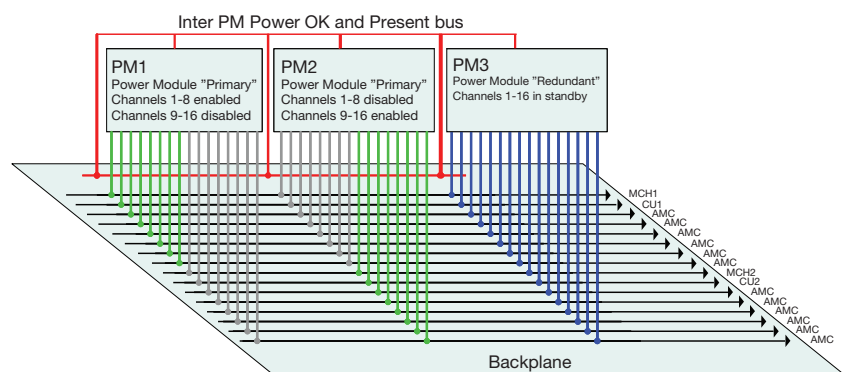
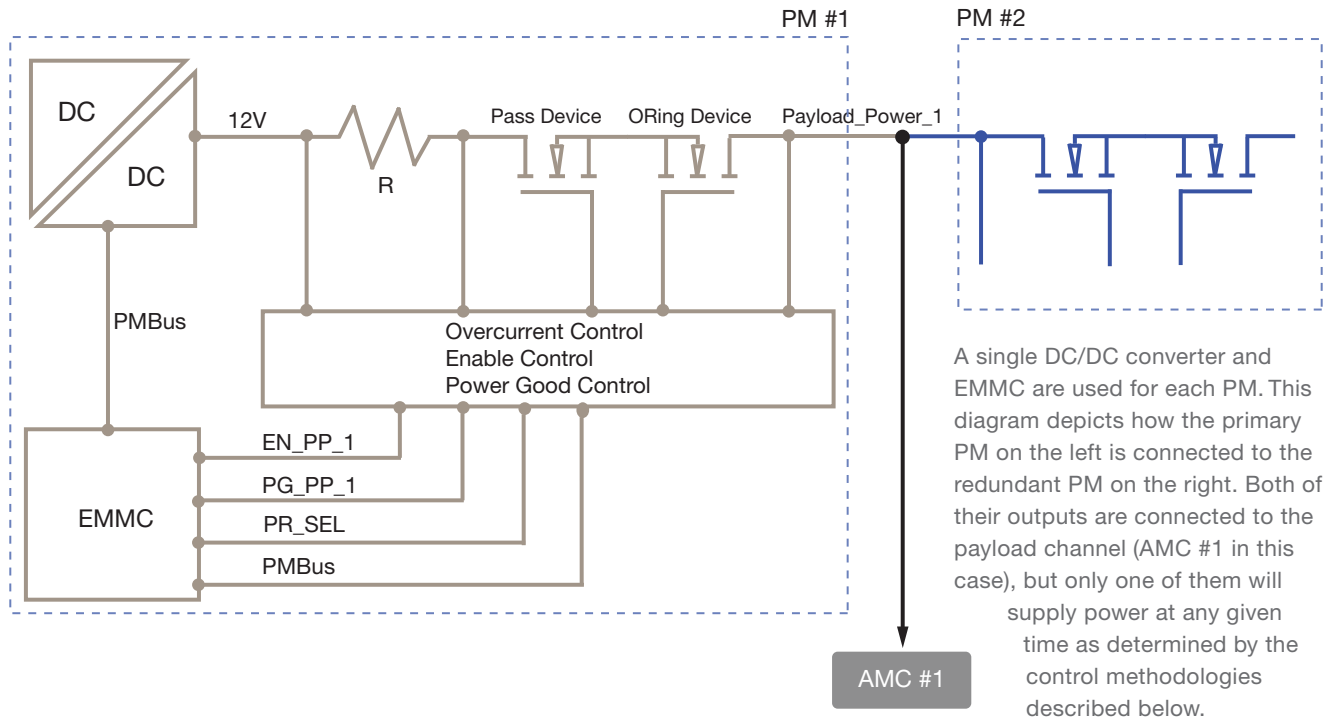

Figure 4 - Example of 2+1 redundant MicroTCA power module implementation
Figure 6 - Example of payload channel control that allows for redundant operation
This methodology becomes more understandable when looking at some examples. *Figure 4* depicts a system that is configured with 2+1 redundancy.
Figure 6 is a simplified diagram showing the implementation of the payload channel power control function. The Enhanced Module Management Controller (EMMC) is a digital device that interfaces the power control functionality within the PM to the remainder of the MicroTCA system. This diagram shows only one of the 16 payload channels. There are also 16 similar management power channels that are not shown. In each PM, therefore, the current sensing resistor, O-Ring and pass transistors and the power control block functions are replicated 32 times. The power control block shown between the EMMC and the current sense resistor and output control transistors consists primarily of a hotswap control integrated circuit (IC). These ICs can handle multiple channels, so the number of chips required will vary but the described functionality is independently required for each of the 32 output voltage channels.
Figure 6 also depicts two connections implemented with a Power Management Bus (PMBus™). The PMBus is a bidirectional serial digital bus that is central to the implementation of systems using digital power control and digital power management. This paper only describes its usage for this application, but additional information about the PMBus can be found in reference [6]. In this implementation the PMBus between the EMMC and the power control block is used so that the EMMC can monitor and change settings of the power control block during operation. The PMBus connection between the EMMC and the DC/DC converter is used so that the DC/DC converter can be programmed for the proper output voltage corresponding to its function as either a primary or redundant PM. The EMMC may also collect data on output current and temperature from the DC/DC converter. There is also, as depicted in Figures 4 and 5, an interconnection between the PMs so that each knows if the other is present in the system and its power good status.
Because of the interconnection between the PMs shown in *Figure 4 and 5*, the redundant PM will be aware that the PM_OK signal of the primary PM has gone down, indicating a failure. At this point, the redundant PM assumes the role of primary PM and increases its output voltage accordingly. This transition can be seen clearly in *Figure 11* as an increase in the AMC input voltage to 12.5V. There is also a slight increase in the now primary PM's input current due to the increase in output power from increasing the voltage on the resistive load. All of this can be accomplished in much less than 100 ms, but there is a built-in 100 ms "debouncer" before the role transition so that transient noise and glitches can be filtered out.